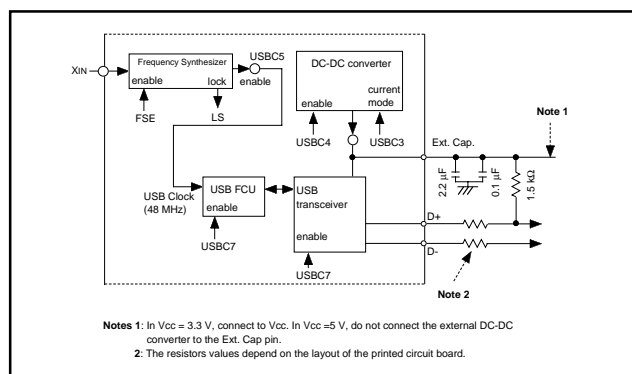

Fig.112 Peripheral circuit
- Connect a capacitor between the Ext. Cap. pin and the Vss pin. The capacitor should have a 2.2 μ F capacitor (Tantalum capacitor) and a 0.1 μ F capacitor (ceramic capacitor) connected in parallel. Figure 112 for the proper positions of the peripheral components.